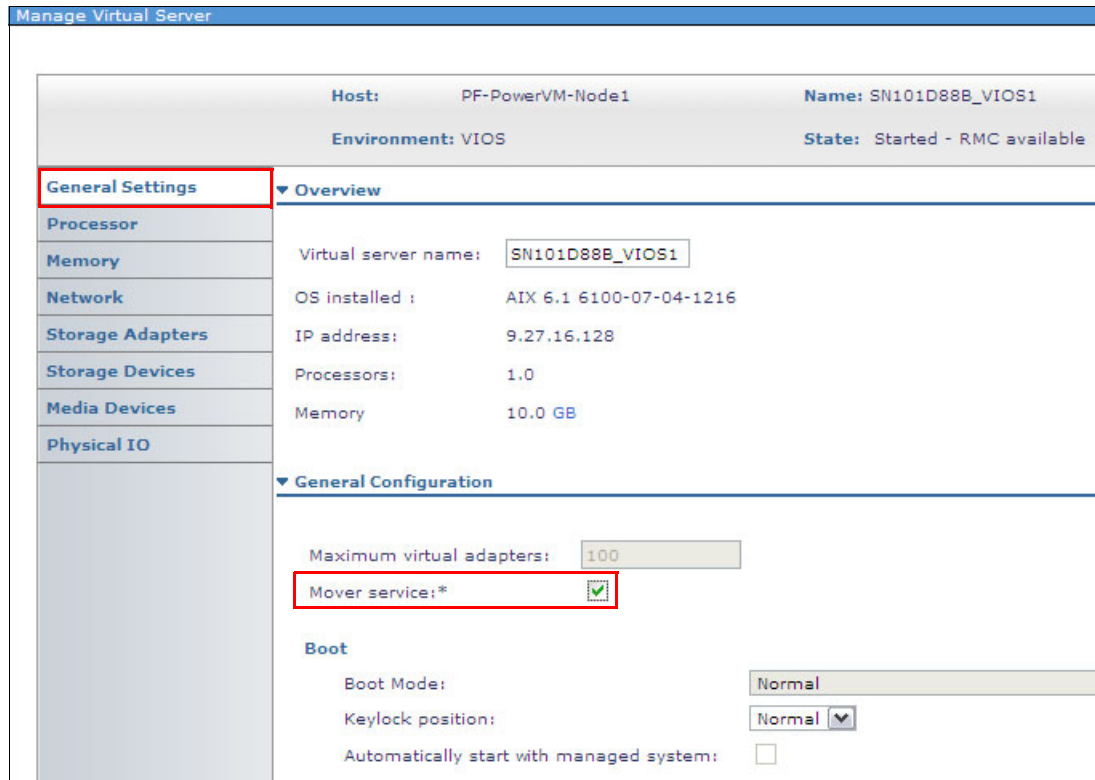

Figure 10-162 Check VIOS server setting
2. Select **Mover service** to perform Live Partition Mobility as shown in Figure 10-162.